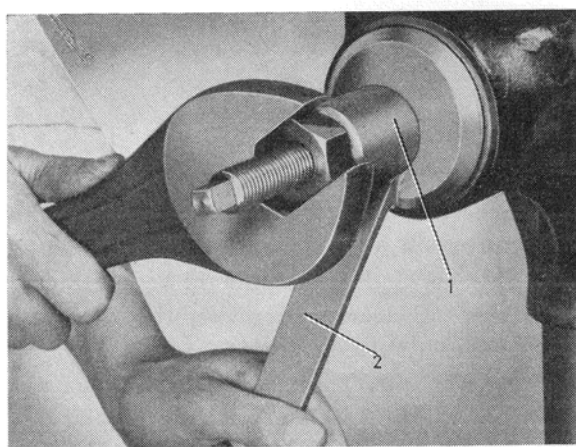

Fig. 34. Fitting the pinion.
4. Insert the pinion into the housing and fit on the spacer tube (this concerns only the gear-box with part number 89686), the same number of shims (24) there were when disassembly was carried out, the forward pinion bearing (23) and the washer (17). Fit the wrench SVO 2208 and the press tool SVO 1845 on the forward end of the pinion and tighten the pinion as shown in fig. 34.